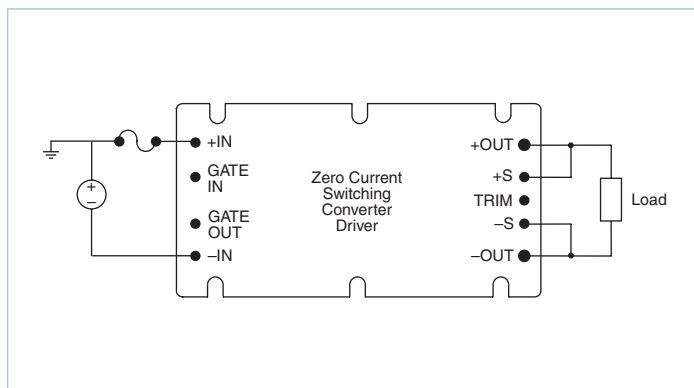

Figure 7.3 — Negative inputs (with positive ground)
**Negative Inputs (with positive ground):** (Figure 7.3) Vicor modules have isolated inputs and outputs making negative input configurations easy. Fusing should always be placed in the positive lead.